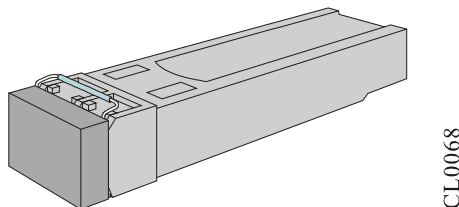
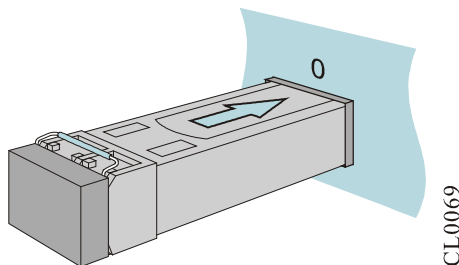

Figure 4-13 SFP modules
Figure 4-14 Install the SFP module
- Step 3: Take out the SFP module from the packaging box. Figure 4-13 shows the diagram of the SFP module. Hold both sides of the SFP module with your hands, and push it horizontally into the interface slot of the switch until the SFP module is in close contact with the slot (you can feel the shrapnel on the top and bottom of the SFP module stuck the interface slot), as shown in Figure 4-14 Show.